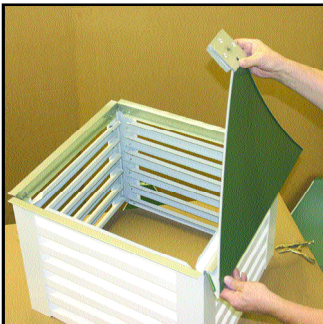

FIGURE 6
5. Attach roof cap to one roof section with #14 x 1" Teck screw (finger tight). Slide roof section into the top connector flange. The roof section can also be "snapped" into the flange (**Figure 6**).